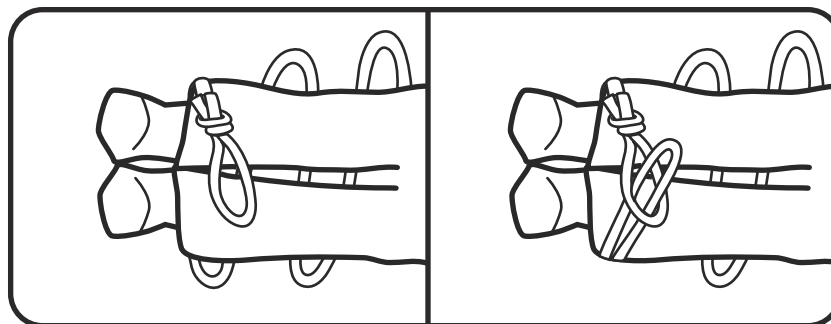

Figure 9-8. Securing the Casualty's Feet.
- Start at the casualty's feet and pull the first bight up around the casualty's ankles and through the figure-eight loop tied into the starting end of the rope, ensuring that the figure-eight loop goes around the soles of the feet, as in figure 9-8.